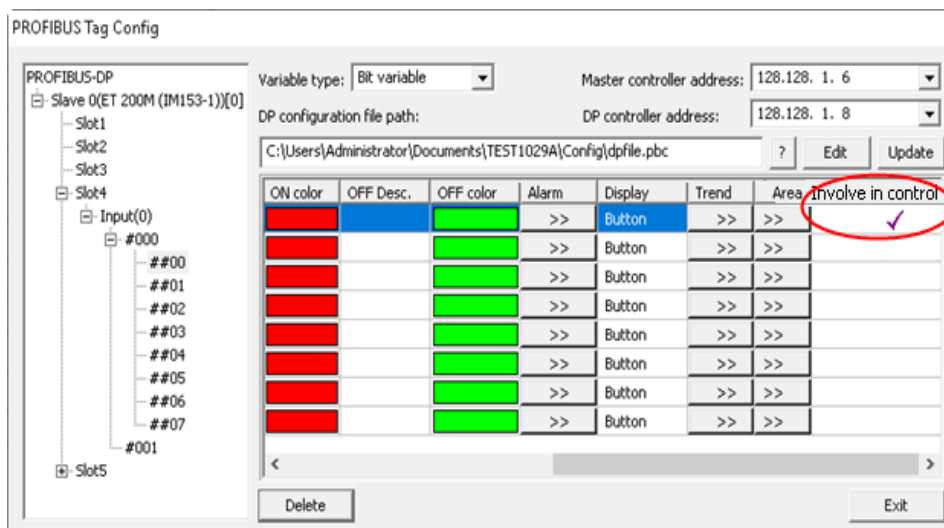

Figure 4-38 Involve in control
- Add “Involve in control” column: if the option is selected, the tag will participate in station communication control between controlled controller and PROFIBUS-DP master interface module. If “Involve in control” of byte variable has been selected, and the byte variable include the bit variable. “Involve in control” of the bit variable need not be selected, as shown in Figure 4-38.